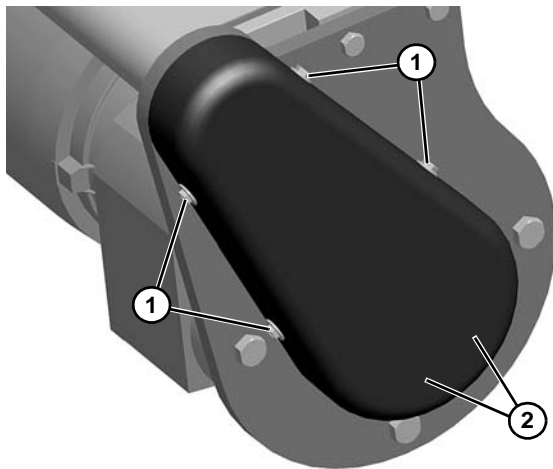

Figure 8
2. On drive side of the conveyor, loosen four screws (**Figure 8, item 1**) and remove timing belt covers (**Figure 8, item 2**).